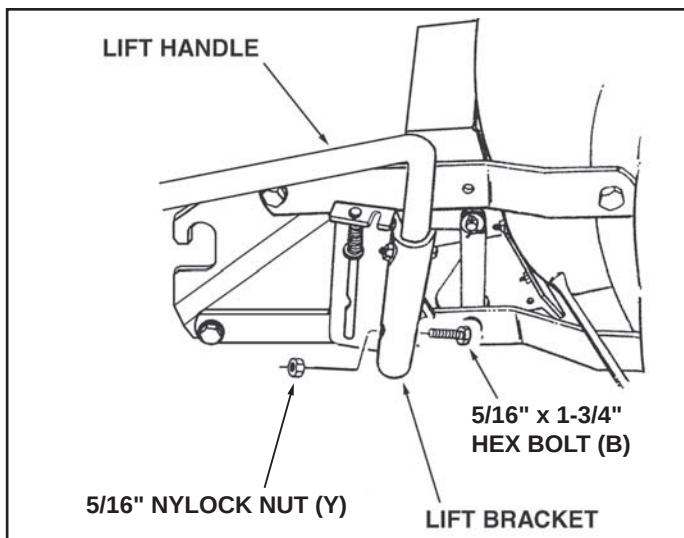

FIGURE 47
STEP 48: (SEE FIGURE 47)
- Place the lift handle into the lift bracket on the right side of the snow thrower. Fasten the handle to the bracket using two 5/16" x 1-3/4" hex bolts (B) and 5/16" Nylock nuts (Y).